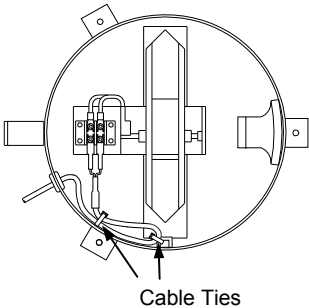

Figure 2: Service Loop
- 4. From outside of housing, feed the spade terminal end of cable through the rubber grommet and reconnect to terminal block. The polarity of the input connection is not important. **Make sure any excess cable inside of housing is secured so that it does not interfere with the operation of the tipping bucket mechanism!** If possible, create service loop for cable by using two small cable ties to loop and secure cable to cable tie mount (see Figure 2).